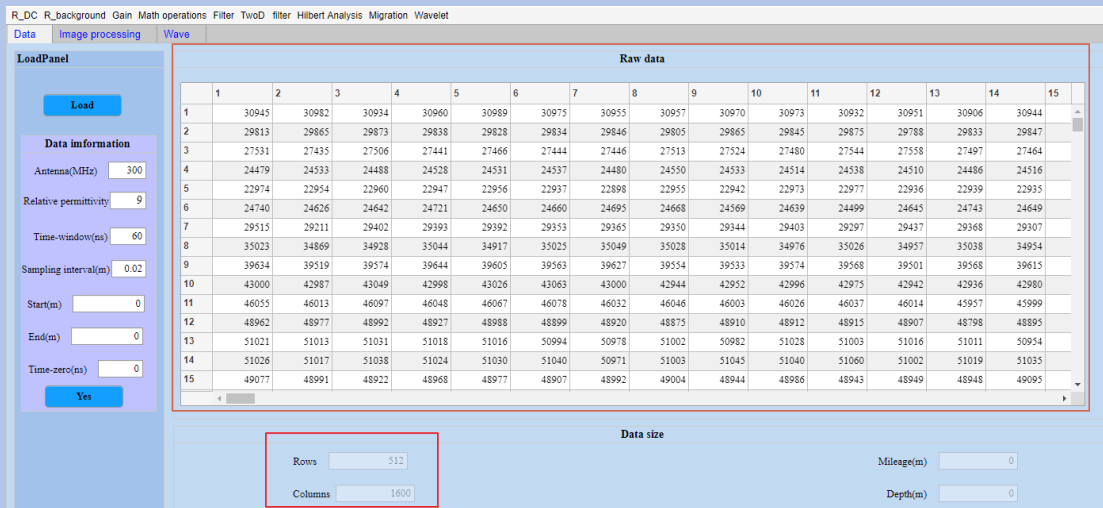

Figure 8.7 Case2 loading data
(1) To read in the data, as shown in Figure 8-7, we can see that the data is sampled at 512 and has 1600 traces.